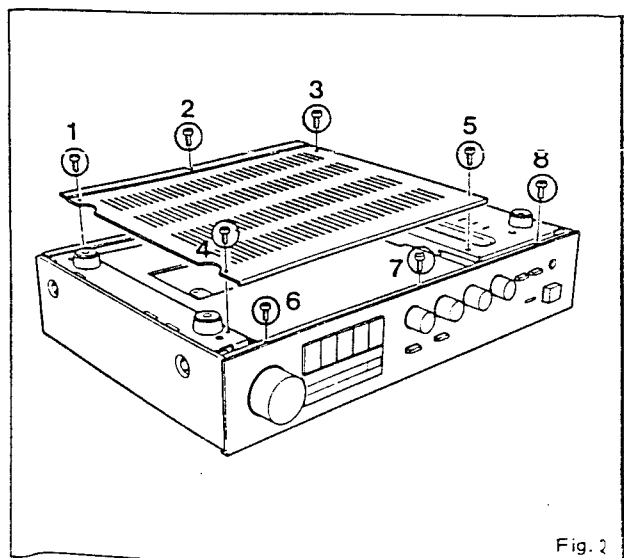
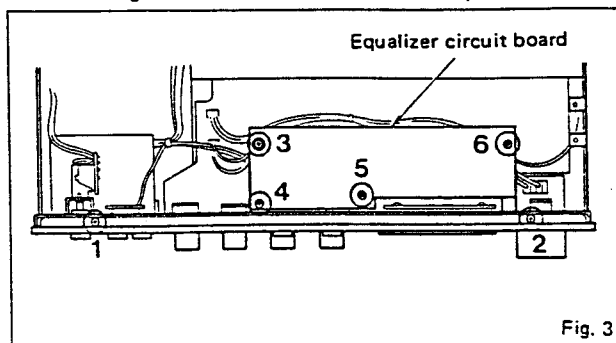

Fig. 2
Fig. 3
Remove screws ① through ⑤ in fig. 2 and then remove the bottom cover.
- b. Remove screws ⑥ through ⑧ in Fig. 2 and ① and ② in Fig. 3 and then remove the front panel.
Remove screw ③ and plastic rivets ④ through ⑥ in fig. 3 and then remove the equalizer circuit board. In this condition, you can exchange almost all parts of equalizer, tone control and main amplifier circuit.